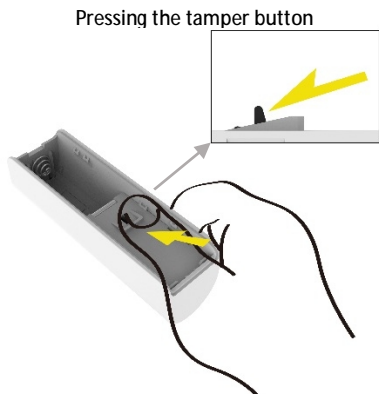

Figure 4
1. Remove device rear cover and pressing the tamper button **three times** within 2 seconds, green LED indicator should go “On” 0.5 second and enter exclusion mode. (Figure 4).
1. Pressing the tamper button **four times** within 2 seconds (Figure 4) and do not release the tamper button in the 4th pressed, and the LED will turn ON.